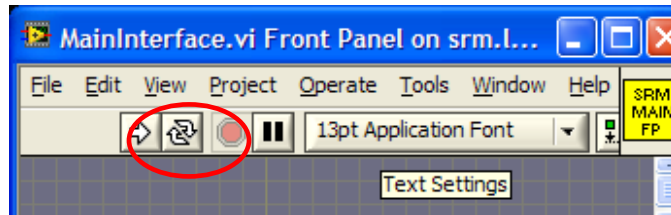

Figure 2. Run Application.
1. Double-click the **Discrete SRM** shortcut on the cyromag computer. If the program does not launch automatically, click the **Run** arrow in the upper left corner to start (**Figure 2**).